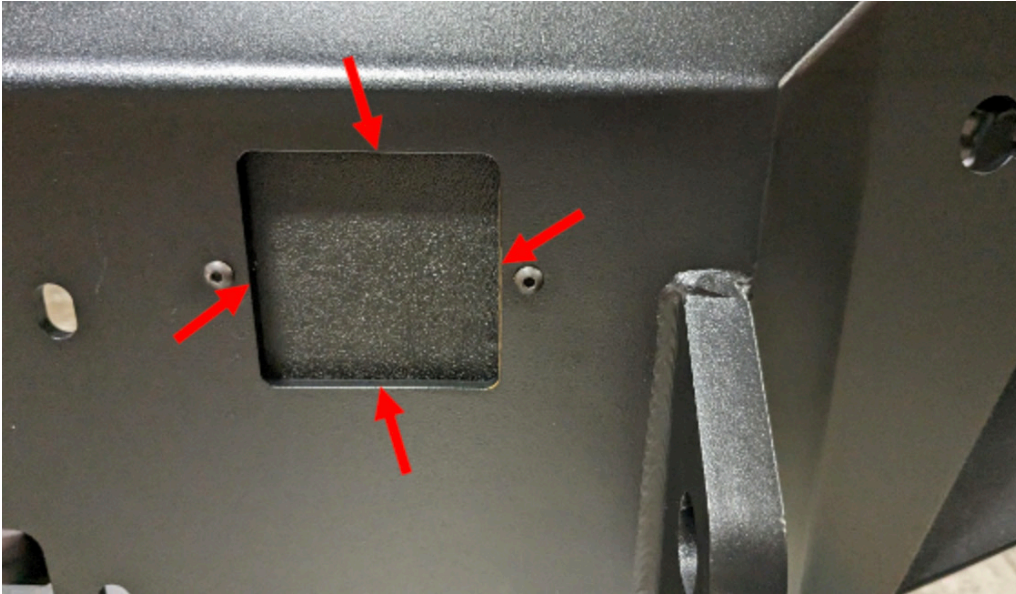

Figure 17
17. Using a silver marker, trace the window opening and two (2) holes in the front face of the bumper onto the smooth side of provided black plastic sheet (Part#: 61784). (Figure 17)